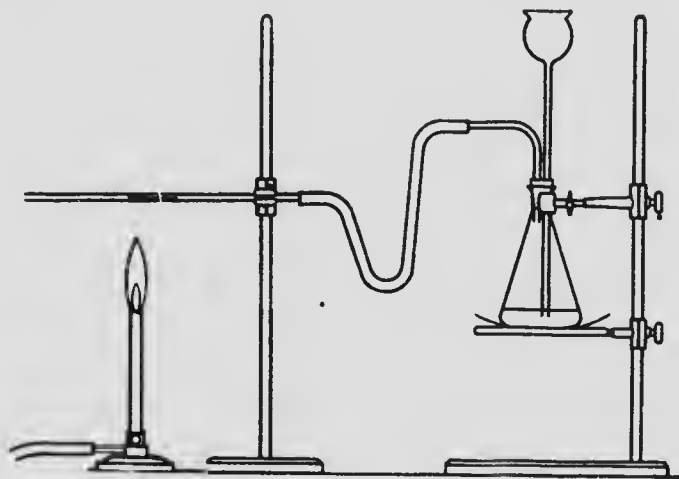

FIG. 31.
(5) Heat the short piece of copper wire by placing it on the corner of your gauze. Note the change in color. Place this wire in the straight hard glass tube and join up to the generator as shown in Fig. 31. Wrap a towel around the generator and, when it is found that the gas is safe, heat the copper compound carefully with the Bunsen flame. Note what happens to the copper compound when heated in a current of the gas. Note the cold part of the tube.